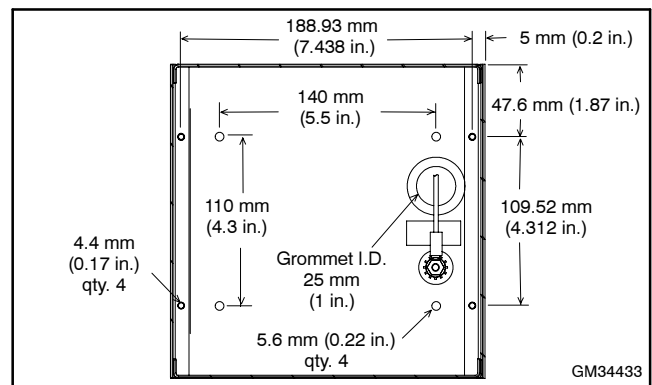

Figure 13 RSA Mounting Hole Dimensions in Supplied Box GM31884
See Figure 13 for RSA supplied box mounting hole information.
- 3.5.3 Remove the ground wire and hardware from box GM31884 and install the ground wire and hardware in the Hoffman box. See Figure 13 for recommended location. Substitute user-supplied ground wire and hardware as needed. Temporarily install the RSA front panel assembly to be sure the ground wire location does not interfere with attaching the RSA front panel assembly.